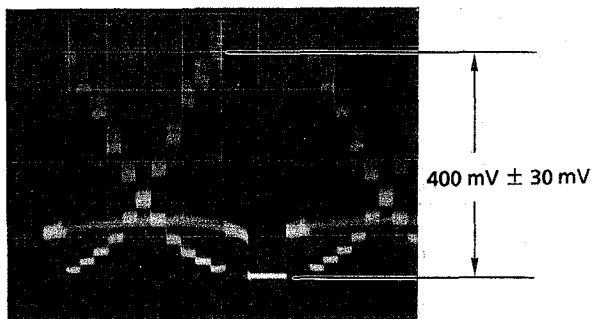

Fig. 4-2
- Adjust data by **ARROW** keys so that signal level becomes 400 mV ± 30 mV as shown in Fig. 4-2.